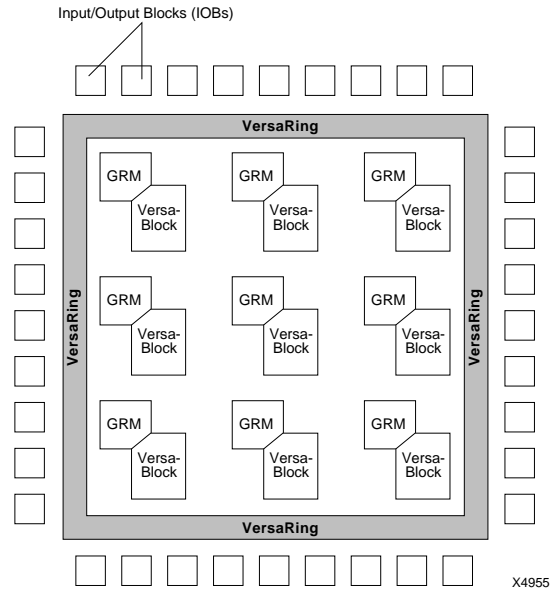
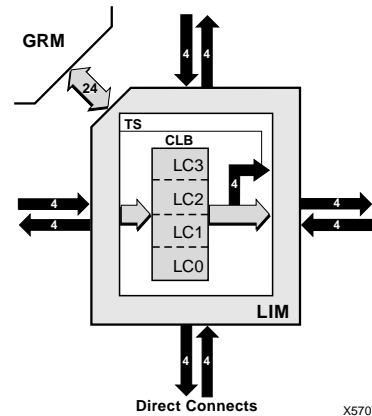
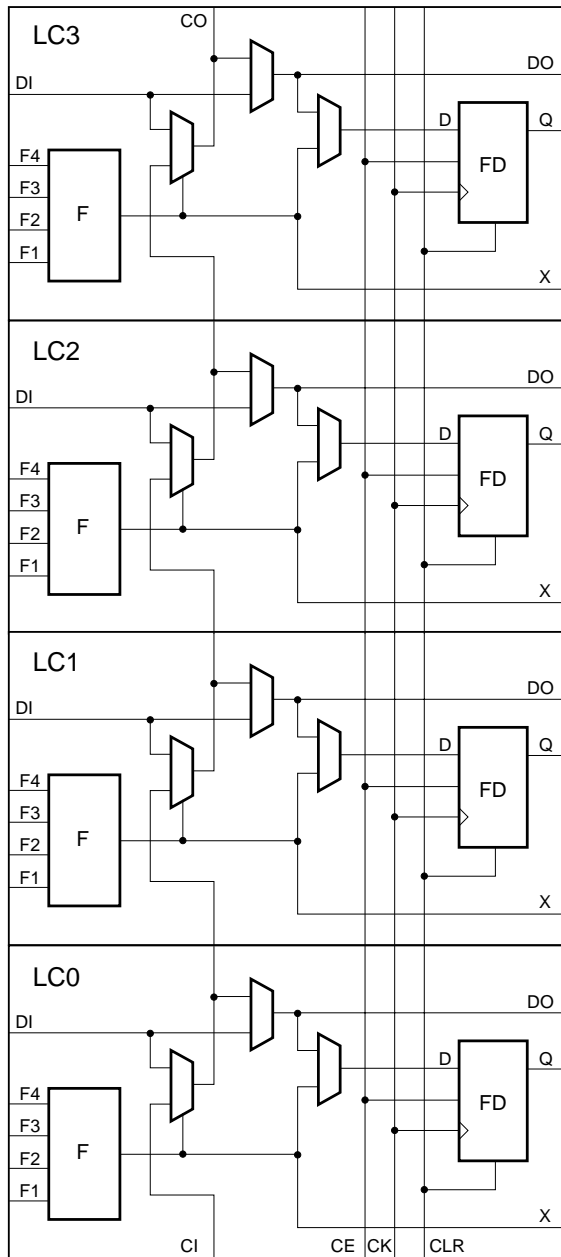

Figure 1: XC5200 Architectural Overview
Figure 2: VersaBlock
Figure 4: Configurable Logic Block
Figure 1 presents a simplified, conceptual overview of the XC5200 architecture. Similar to conventional FPGAs, the XC5200 family consists of programmable IOBs, programmable logic blocks, and programmable interconnect. Unlike other FPGAs, however, the logic and local routing resources of the XC5200 family are combined in flexible VersaBlocks (Figure 2). General-purpose routing connects to the VersaBlock through the General Routing Matrix (GRM).
The XC5200 CLB consists of four LCs, as shown in Figure 4. Each CLB has 20 independent inputs and 12 independent outputs. The top and bottom pairs of LCs can be configured to implement 5-input functions. The challenge of FPGA implementation software has always been to maximize the usage of logic resources. The XC5200 family addresses this issue by surrounding each CLB with two types of local interconnect — the Local Interconnect Matrix (LIM) and direct connects. These two interconnect resources, combined with the CLB, form the VersaBlock, represented in Figure 2.
Figure 4 shows the logic in the XC5200 CLB, which consists of four Logic Cells (LC[3:0]). Each Logic Cell consists of an independent 4-input Lookup Table (LUT), and a D-Type flip-flop or latch with common clock, clock enable, and clear, but individually selectable clock polarity. Additional logic features provided in the CLB are:
Four fast feed-through paths from DI to DO are available, as shown in Figure 4. This bypass is sometimes used by the automated router to repower internal signals. In addition to the storage element (Q) and direct (DO) outputs, there is a combinatorial output (X) that is always sourced by the Lookup Table.